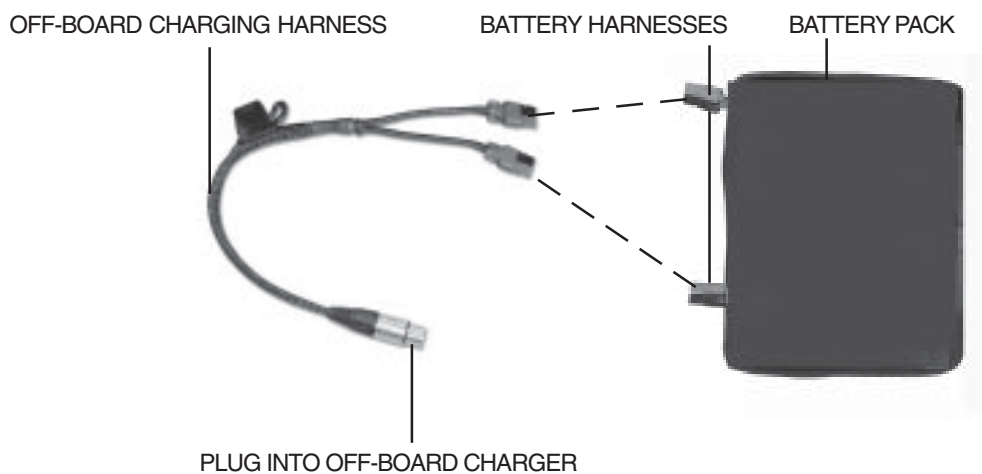

FIGURE 9. OFF-BOARD CHARGER HARNESS CONNECTIONS
- Connect the off-board charging harness to the battery harnesses that extend from the battery pack. See figure 9.